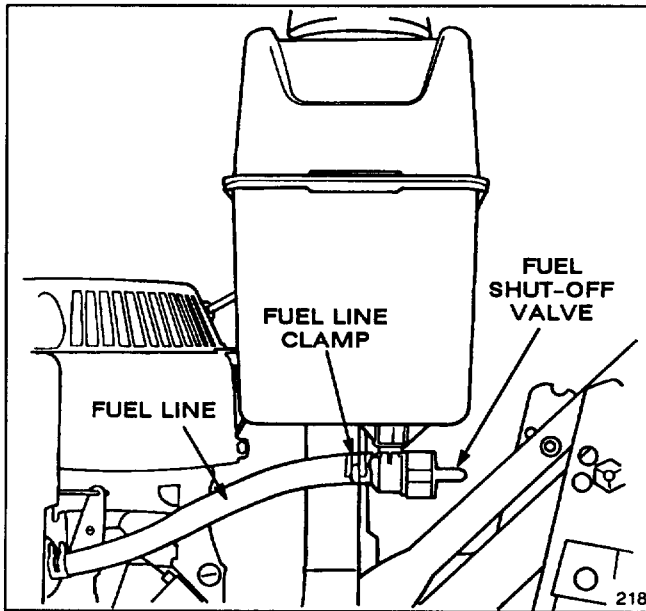

Figure 4
5. Slide end of fuel line onto fuel shut-off valve end. Use a pliers to pinch the fuel line clamp ends and slide it down the fuel line toward the fuel shut-off valve. Release the clamp to secure fuel line to fuel shut-off valve end (Fig. 4).